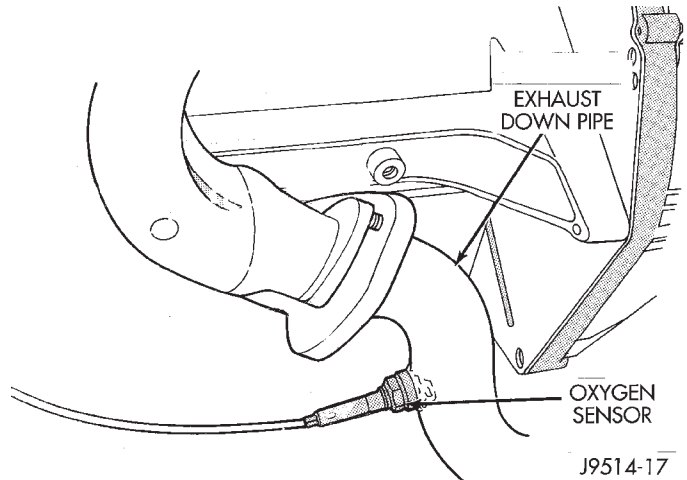
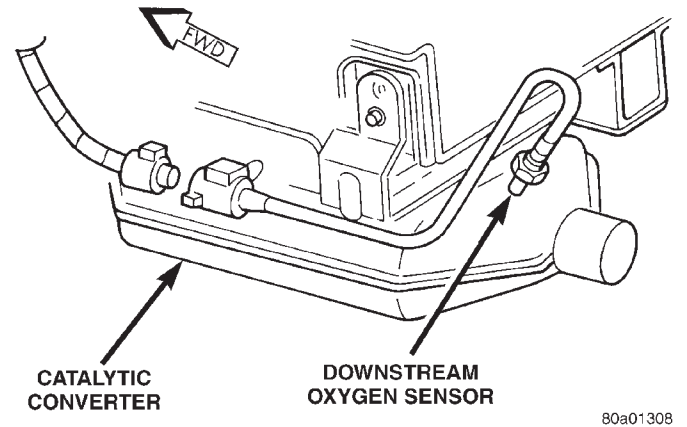
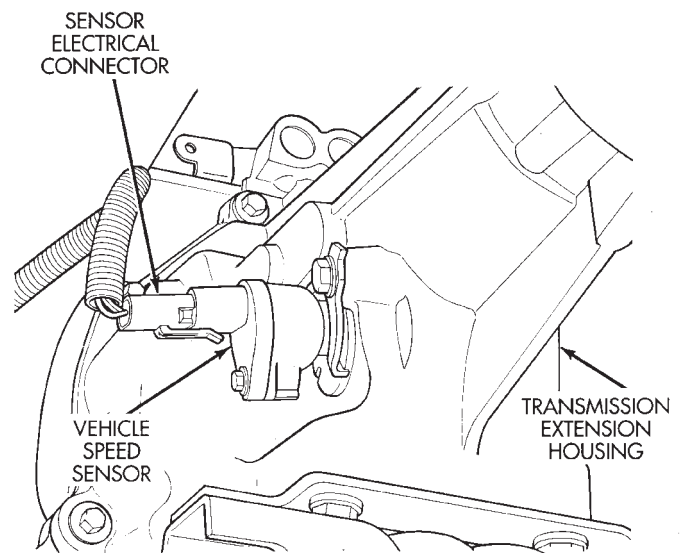

Fig. 40 Upstream Oxygen Sensor—4.0L Engine
Fig. 41 Downstream Oxygen Sensor—4.0L Engine
Fig. 42 Vehicle Speed Sensor—Typical
(20) Raise and support the vehicle.
(21) Verify that both of the oxygen sensor wire connectors are firmly connected to the sensors. Inspect sensors and connectors for damage (Fig. 40) or (Fig. 41).
(22) Inspect for pinched or leaking fuel tubes. Inspect for pinched, cracked or leaking fuel hoses.
(23) Inspect for exhaust system restrictions such as pinched exhaust pipes, collapsed muffler or plugged catalytic converter.
(24) If equipped with automatic transmission, verify that electrical harness is firmly connected to park/neutral switch. Refer to Automatic Transmission section of Group 21.
(25) Verify that the electrical harness connector is firmly connected to the vehicle speed sensor (Fig. 42).